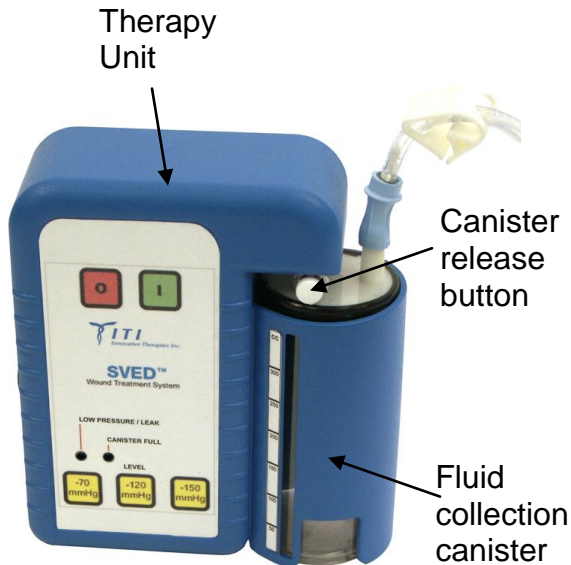

Fig. 4
1. Ensure that an ITI Fluid Collection Canister is properly inserted in the receptacle located on the side of the therapy unit (see Fig 4). The Canister should “snap” into place and lock. The canister release button may need to be depressed to permit canister insertion. **NOTE: Always use a new canister with a new patient.**